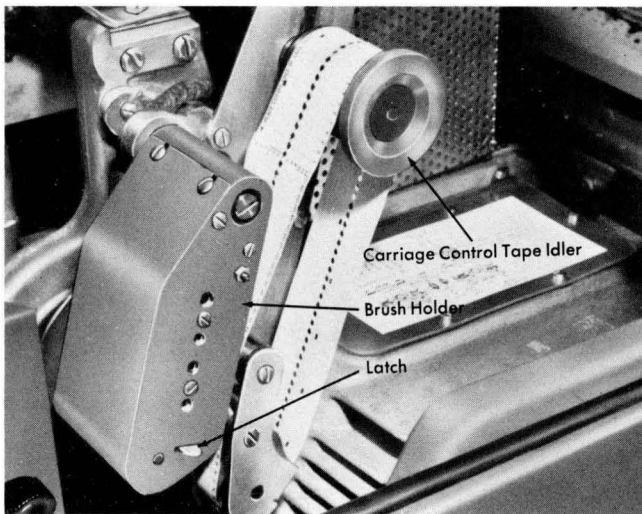

Figure 27. Tape Controlled Carriage
The tape-controlled carriage (Figure 27) controls high speed feeding and spacing of continuous forms. The carriage is controlled by punched holes in a paper tape that corresponds in length to the length of one or more forms. Holes punched in the tape stop the form when it reaches any predetermined position.
The control tape (Figure 27) has 12 columnar positions indicated by vertical lines. These positions are called channels. Holes can be punched in each channel throughout the length of the tape. A maximum of 132 lines can be used to control a form, although for convenience, the tape blanks are slightly longer. Horizontal lines are spaced six to the inch for the entire length of the tape. Round holes in the center of the tape are pre-punched for the pin-feed drive that advances the tape in synchronism with the movement of a printed form through the carriage. The effect is exactly the same as though the control holes were punched along the edge of each form.
6. Remove excess slack from the tape by loosening the locking knob on the idler and moving the idler in its track. Tighten the knob when the desired tension is reached. The tape should be just tight enough so that it gives slightly when the top and bottom portions of the loop are pressed together (see Figure 27). If it fits too tightly, damage occurs to the pin-feed holes.